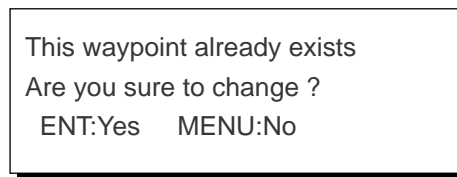

Figure 5-7
- ① Press **WPT RTE** and **6** to display the route list.
- ② Press **▲** or **▼** to select route number entered.
- ③ Press **▶**.
- ④ Enter waypoint number, in three digits.
- ⑤ Press **▼**. If the waypoint number already exists the message shown in Figure 5-7 appears.